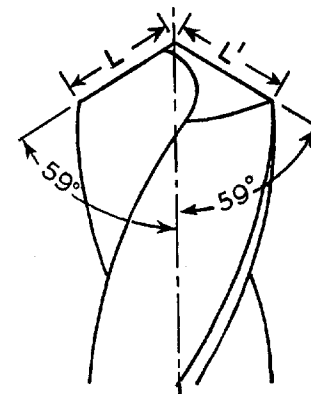

Figure 9—Both lips must be at same lip angle and equal length ($L = L'$)
2. The two cutting lips must be inclined at the same angle with the axis of the drill (figure 9) and must be of equal length. If